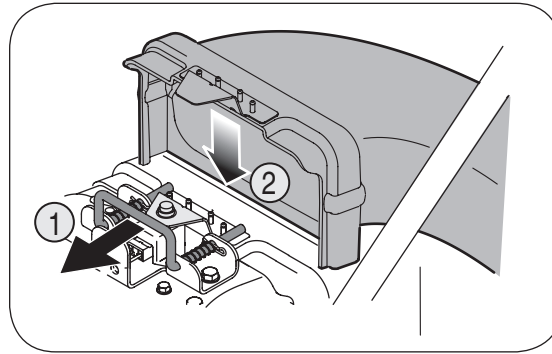

Figure 3-7
1. Grasp blower chute with one hand and slide locking rod on mounting bracket with other hand toward engine. Use the end of mounting bracket as leverage when sliding the locking rod. See Figure 3-7.
2. Slip blower chute over rim of discharge opening and release locking rod to secure chute in place, as in Figure 3-7.